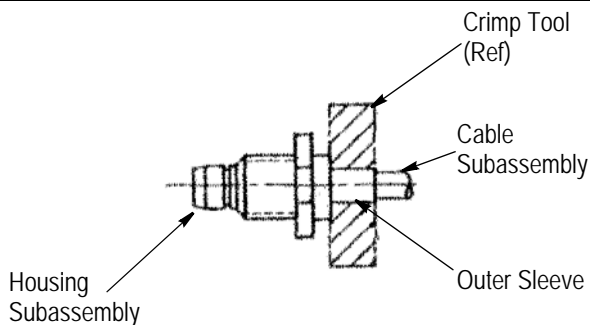

Figure 4
2.3. Crimping the Cable Subassembly to the Housing Subassembly (Figure 4)